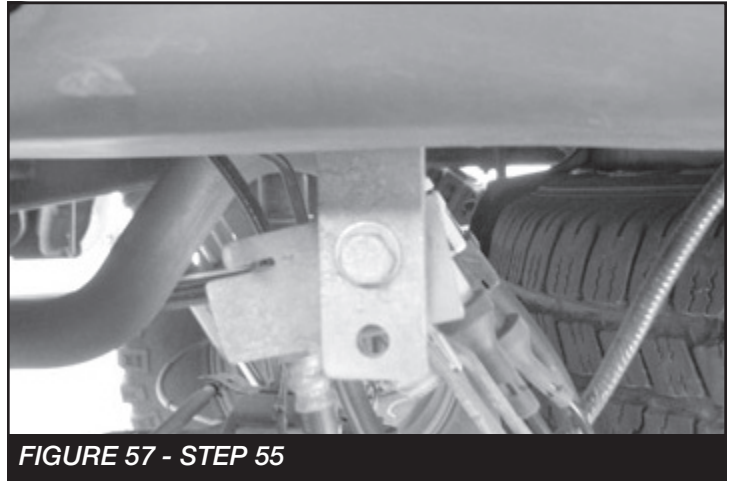

FIGURE 57 - STEP 55
55. Locate the factory brake line mount on the driver side of the frame. Locate the Fabtech brake line bracket (FT70033) and attach the bracket between the factory frame mount and the factory brake line. **SEE FIGURE 57**